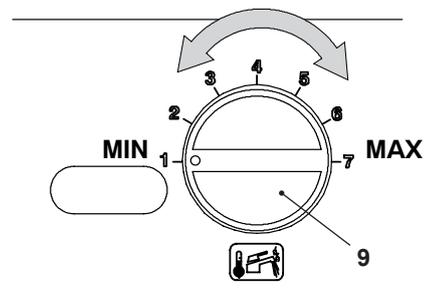

Figure 15.14
- Turn the hot water temperature adjustment knob 8 in Figure 15.14 to the minimum, the following will appear on the LCD display (the sequence **P09** alternates with 01).